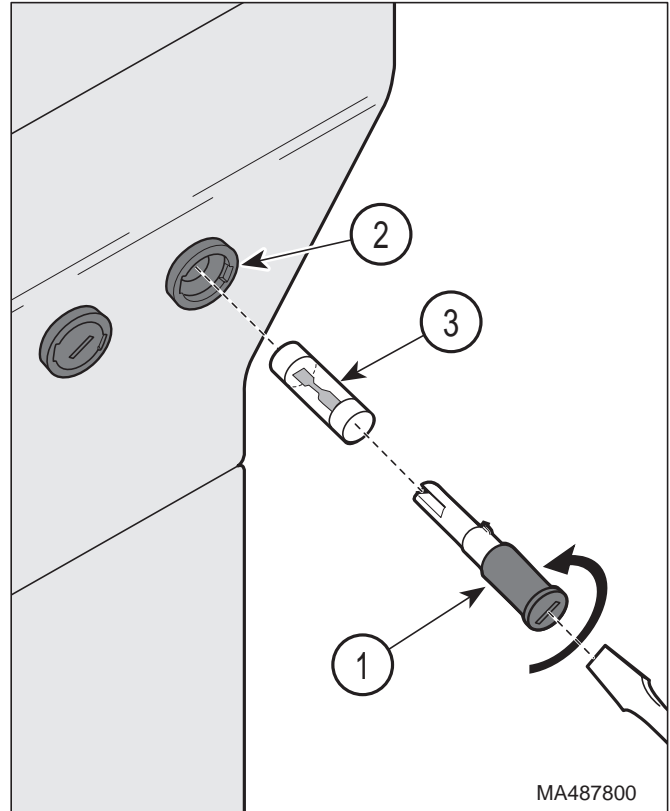

Figure 4-32. Fuse Removal / Installation
- (1) Unplug the table power cord from the wall outlet.
- (2) Using a flat-bladed screwdriver, rotate fuse cap(s) (1, Figure 4-32) counterclockwise and pull fuse cap(s) from fuse housing(s) (2).
- (3) Pull fuse(s) (3) out of fuse cap(s) (1).